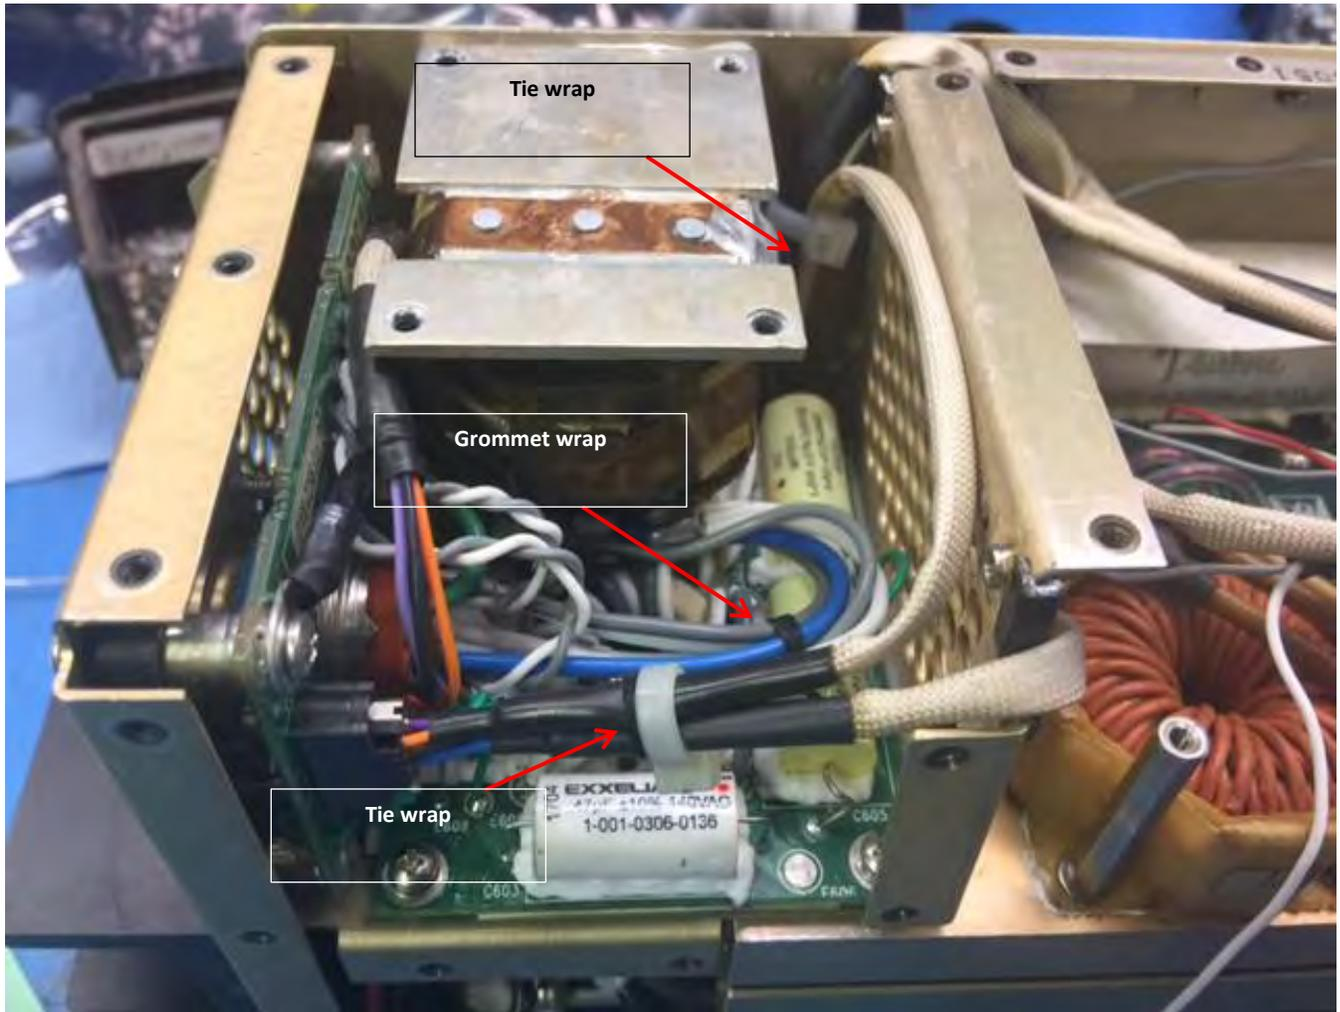

Figure 21
20. Secure the wires with grommet (1-001-0204-0029, Type 6/6). Secure the cables with cable tie (MS3367-5-9). (Figure 21).